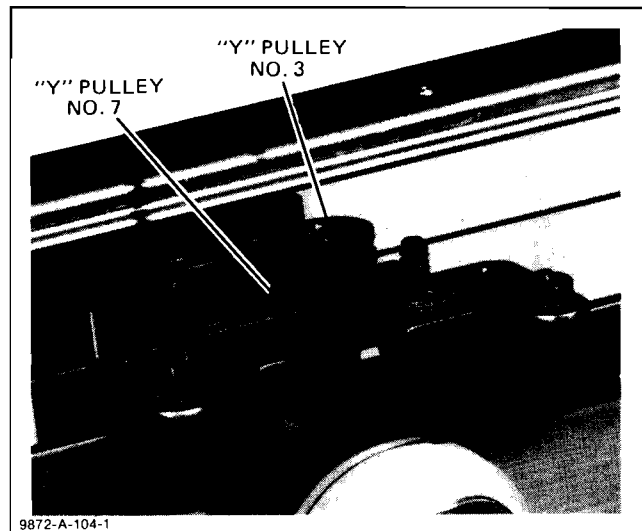

Figure 6-21. Y Cable Feed Through to Pen Carriage Arm
- i. Turn the plotter again, and thread the cable around pulley #7, through the tie block, and insert the crimped end into the hole in the tensioner. Tighten the tensioner cap screw. See Figure 6-21 and 6-22.